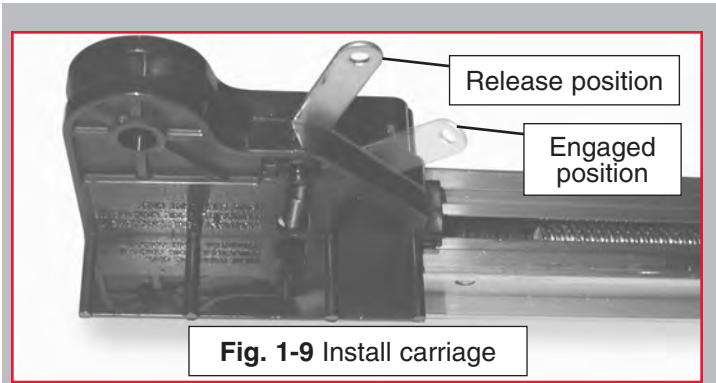

Fig. 1-9 Install carriage
9. Install carriage and carriage stop (Fig. 1-9).